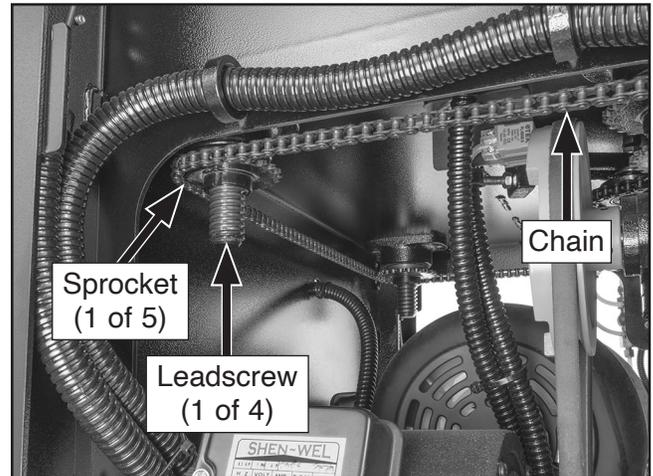

Figure 58. Location of table elevation chain, leadscrews, and sprockets.
4. Use shop rag and mineral spirits to remove old lubricant and built-up grime from chain, exposed leadscrew teeth, and sprockets (see **Figure 58**).